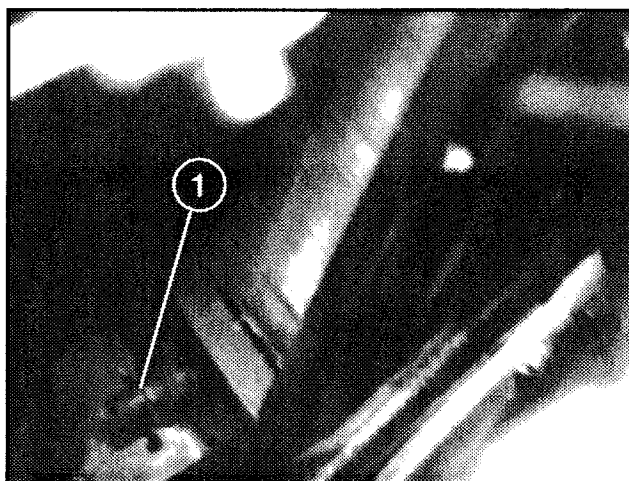

Figure 31
CHANGING ENGINE COOLANT (Fig. 31)
3. Open coolant drain cock at bottom of radiator and allow coolant to flow into drain pan. When coolant stops, close drain cock. (Fig. 31)